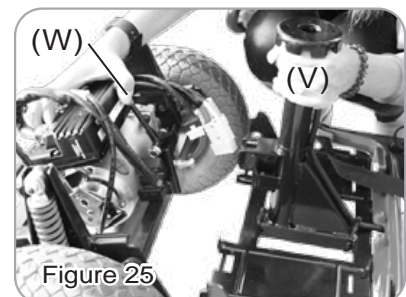

Figure 25
Detach the front and rear sections by holding the Seat Post (V) with one hand and the other hand pushing the release lever to the rear of the scooter. Lift the seat post to separate the Front Frame Assembly (W) from the rear frame assembly. (See Fig. 25).